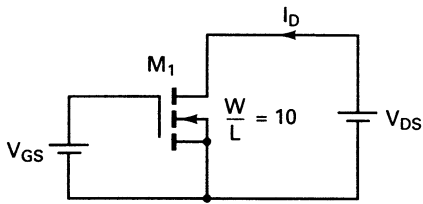

Figure P9-4
- 9-4. For the  $n$ -channel enhancement-type MOSFET in Fig. P9-4, plot the output characteristics if  $V_{DS}$  is varied from 0 to 15 V in steps of 0.1 V and  $V_{GS}$  is varied from 0 to 6 V in steps of 1 V. The model parameters are  $L=10U$ ,  $W=20U$ ,  $V_{TO}=2.5$ ,  $KP=6.5E-3$ ,  $R_D=5$ ,  $R_S=2$ ,  $R_B=0$ ,  $R_G=0$ , and  $R_{DS}=1MEG$ .